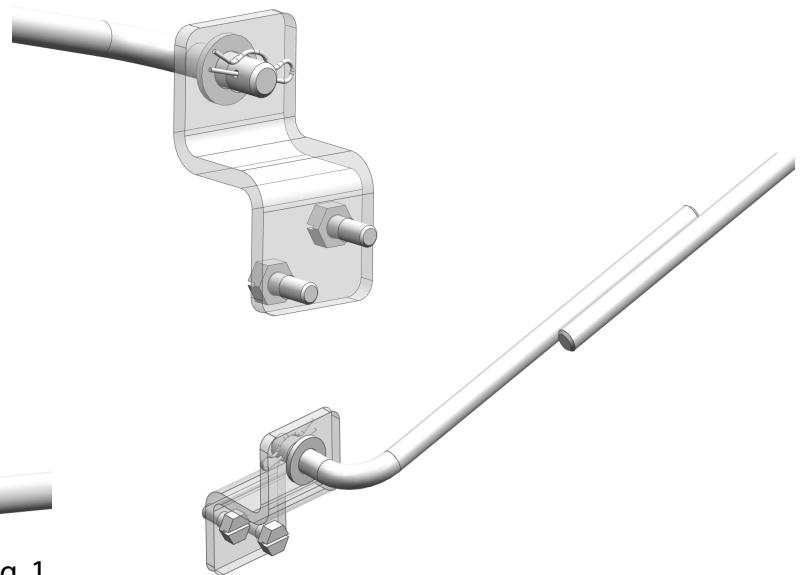

fig. 2
- Step 2: Mount drive leveling bracket D-5738 to frame rail 4" below center of hinge. Weld or bolt in place (see fig 2)
- Step 3: Connect D-5740 short leveling rod to drive leveling bracket with hair pin clip. Align both rods next to each other (see fig2) and weld together.